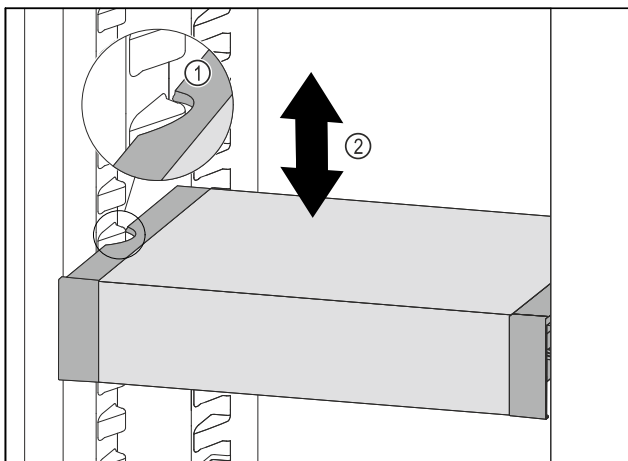

Fig. 104
- Pull VarioSafe forwards until the recesses in the side of the VarioSafe are at the level of the support rib in the refrigerator compartment. Fig. 104 (1)
- Move VarioSafe up or down in the refrigerator compartment until the desired height is reached. Fig. 104 (2)